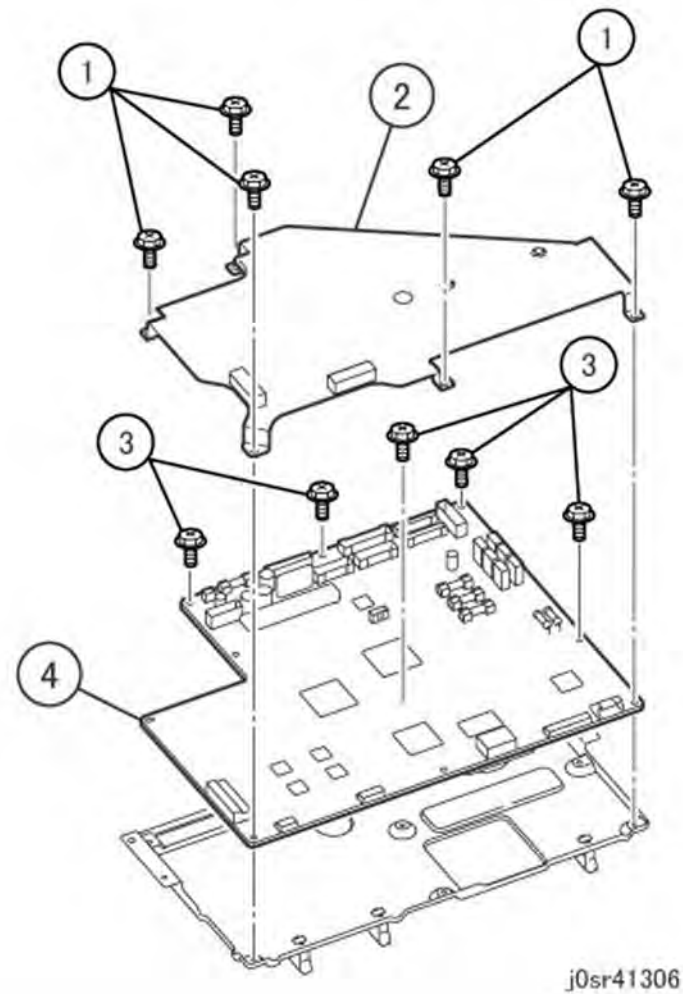

Figure 6 Removing the MCU Cover and MCU PWB
9. Remove the MCU PWB. (Figure 6)